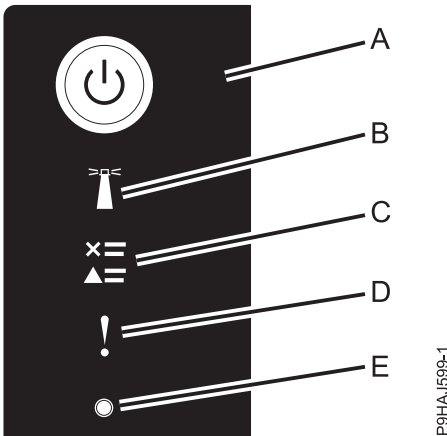

Figure 24. Control panel LEDs
3. Press the power button (**A**) on the control panel, as shown in Figure 24.